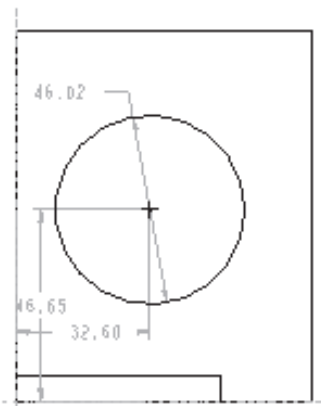

Figure B-8 Sketch of the circle with weak dimensions
1. Choose the **Create circle by picking the center and a point on the circle.** button and draw a circle by selecting a center point as shown in Figure B-8.